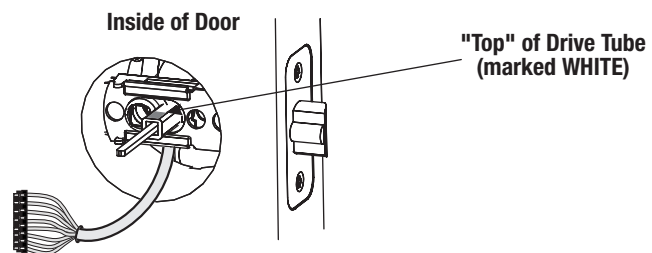

Figure 1B
While supporting cylinder tailpiece (with finger); rotate key 90° **clockwise (CW)** to vertical position (Figure 1B).